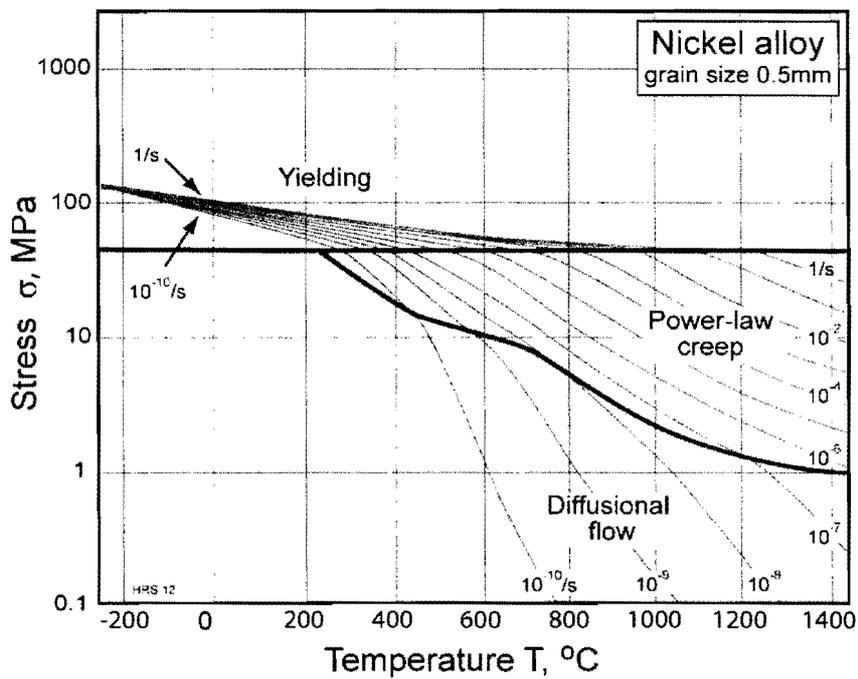

Figure 4
7. Figure 4 shows a deformation-mechanism map for a nickel alloy. The contours are lines of equal strain-rate for steady-state creep in units of s^{-1} .